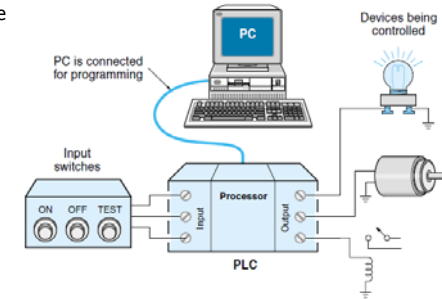

Figure 9.2 A PLC and its related components.
- A programmable controller, as illustrated in Figure 9.2, consists of two basic sections: